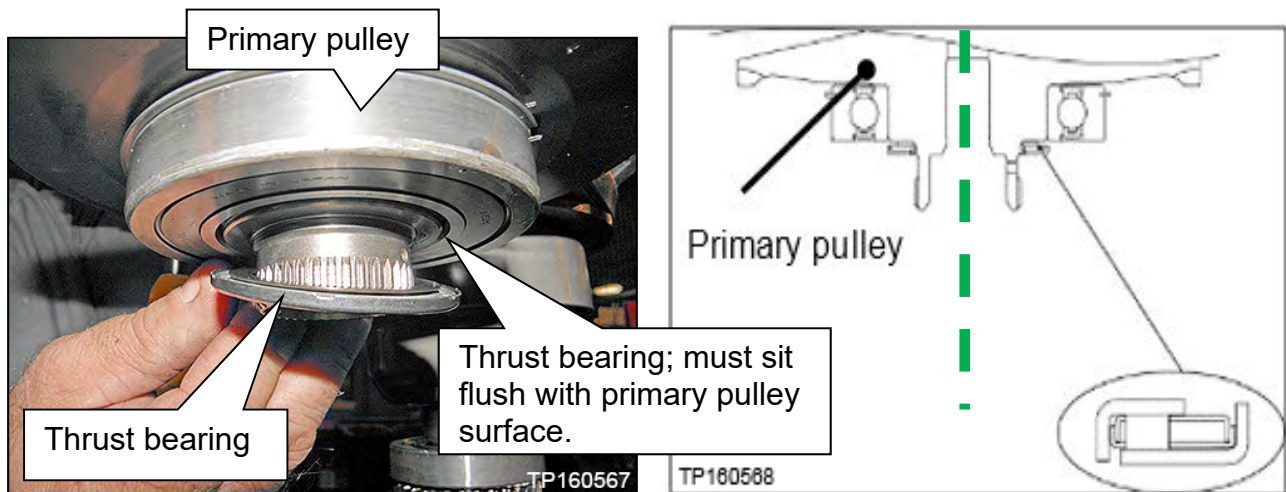

Figure 89
68. Install the original thrust bearing on the primary pulley of the new sub-assembly part (Figure 89).
**CAUTION:** The thrust bearing has two sides. Reference Figure 89 for bearing orientation.